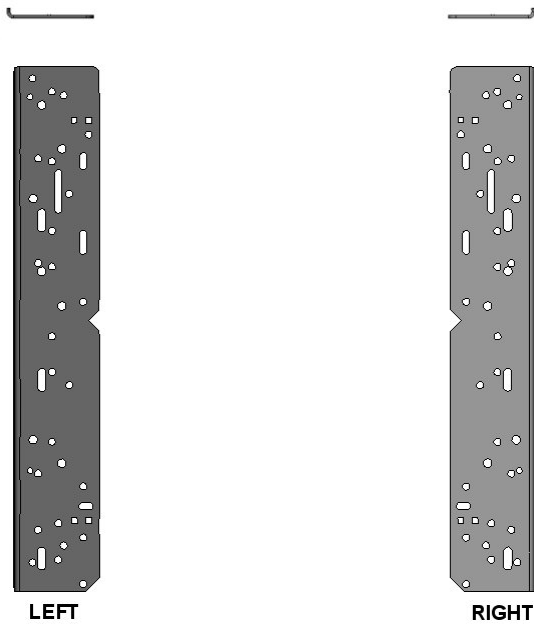

Figure 1. Brackets
1. Carefully inspect the interface brackets (see Figure 1) for shipping damage.